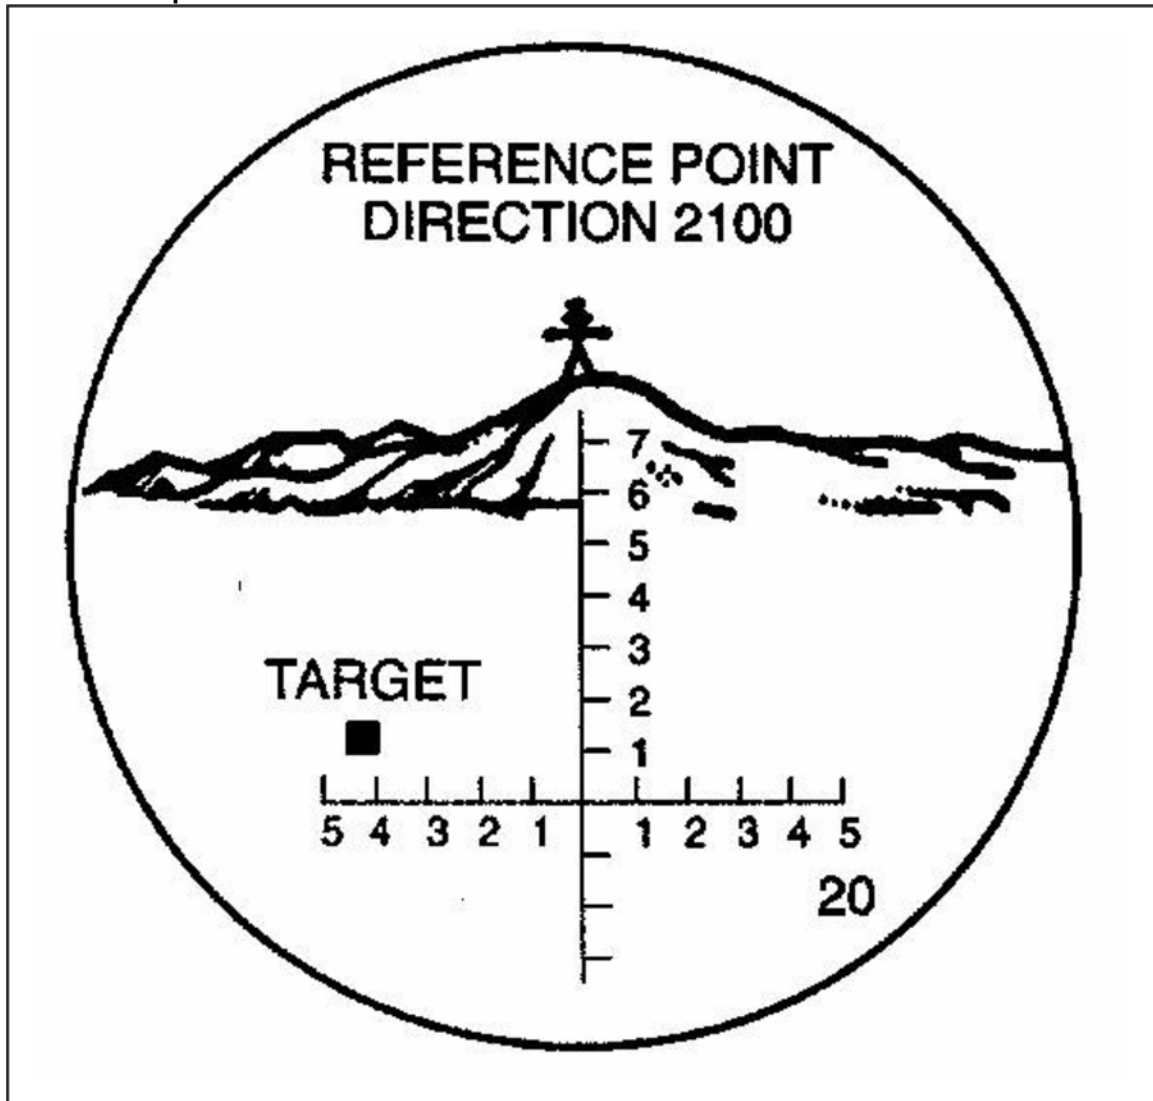
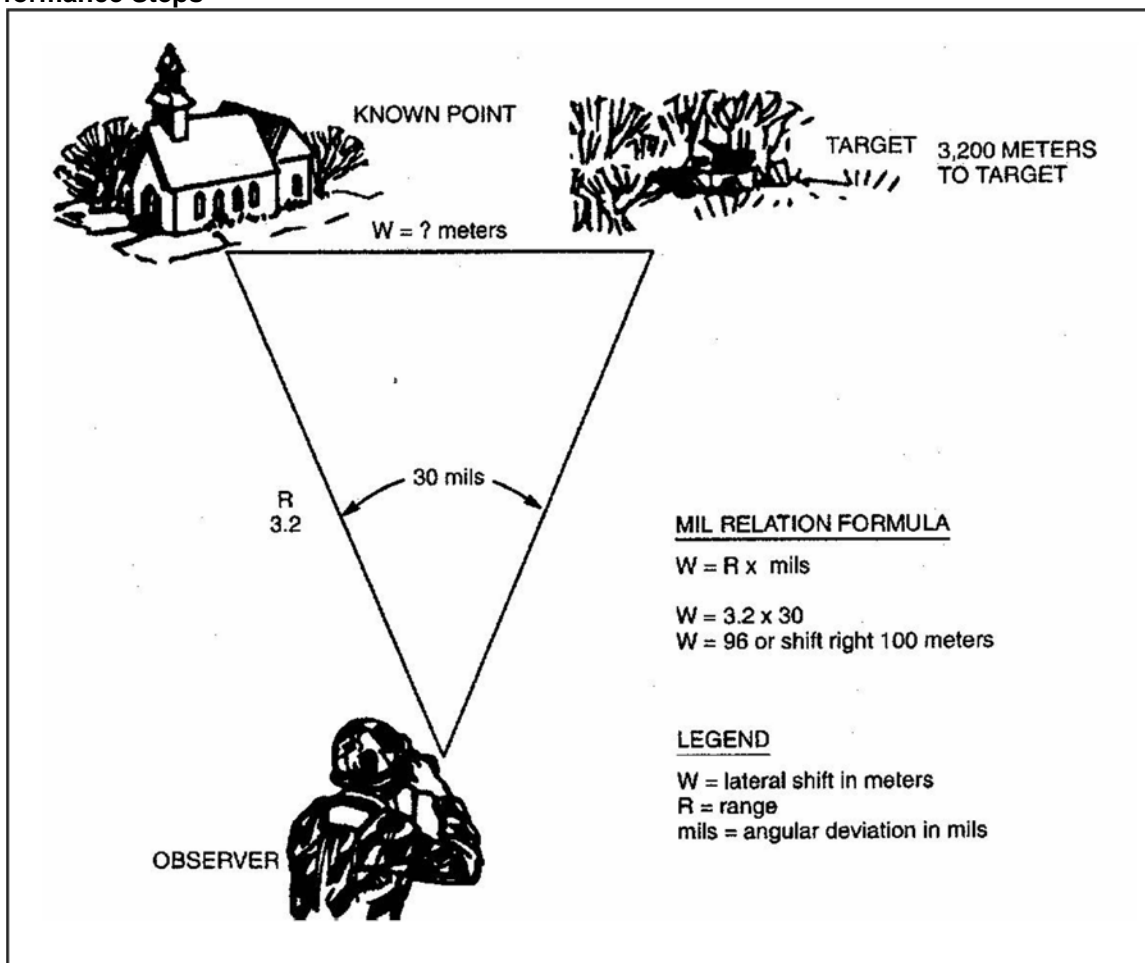

Figure 1. Using Binoculars to Measure Horizontal Distance
Figure 2. Determining Lateral Shift Using Mil-Relation Formula
- (1) With binoculars. In looking through binoculars, you will see a mil scale, which is used to measure horizontal distance (Figure 1). This scale is divided into 10-mil increments, with 100 mils across the scale. Assume that Hill 905 in Figure 2 is your known point. You measure the deviation from Hill 905 to the target. The deviation is three 10-mil increments or 30 mils left of Hill 905.
- (1) Right deviations - Add. In Figure 2, the direction to Hill 905 is 3,200 mils. With the binoculars, measure the deviation (30 mils). Since the target is to the right of the known point, add the deviation (30 mils) to the known direction (3,200 mils). The sum (3,230 mils) is the direction of the target. a. $3,200$ (direction to known point) + 30 (right deviation—add) = $3,230$ (direction to the target)
- (2) Left deviations - SUBTRACT. In Figure 1, the direction of the reference point is 2,100 mils. With the binoculars, measure the deviation (40 mils). Since the target is left of the known point, subtract the deviation (40 mils) from the known direction (2,100 mils). The answer (2,060 mils) is the direction to the target. a. $2,100$ (direction to known point) - 40 (left deviation—subtract) = $2,060$ (direction to the target)
3. Determine the lateral shift from a known point to the target (Figure 2) using the mil relation formula.
- a. The formula is expressed as $W = R \times m$. Where m is the angular measurement in mils between the two points, R is the distance in thousands of meters (expressed to the nearest 100) to the known points from which the angle m was measured (Figure 2), and W is the lateral distance in meters.
- b. Using the mil relation formula to find the lateral shift in meters, perform the calculation, Rm . The range (R) is multiplied by the angular measure (m).
- (1) For our purposes, the mil relation formula is used in conjunction with the distance to the known point expressed in thousands (to the nearest 100) to determine lateral shift. The lateral shift in meters (W) is equal to the distance to the known point (R) times the angular deviation in mils (m).
- (2) The distance to the known point is the distance from the observer to the known point (to the nearest 100 meters) divided by 1,000. For example, if the distance to the known point (church in Figure 2) is estimated to be 3,200 meters, the distance to the known point is 3.2. a. $3,200 \text{ divided by } 1,000 = 3.2$
- (3) Now you are ready to determine the lateral shift. Multiply the distance to the known point (3.2) by the angular deviation (30 mils); the product is the lateral shift (96 meters) a. $3.2 (R) \times 30 (m) = 96$ (lateral shift) R 100 (W) b. Since the deviation is to the right, shift right 100. (Deviation is expressed to the nearest 10 meters).
4. Determine range change from the known point to the target (Figure 2).